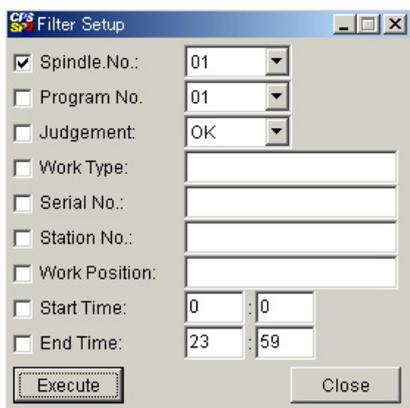

Fig. 7-3-2 Numerical viewer Filter setup screen
| (3) | Filter | The filter setup screen of display data opens. (Fig. 7-3-2) |